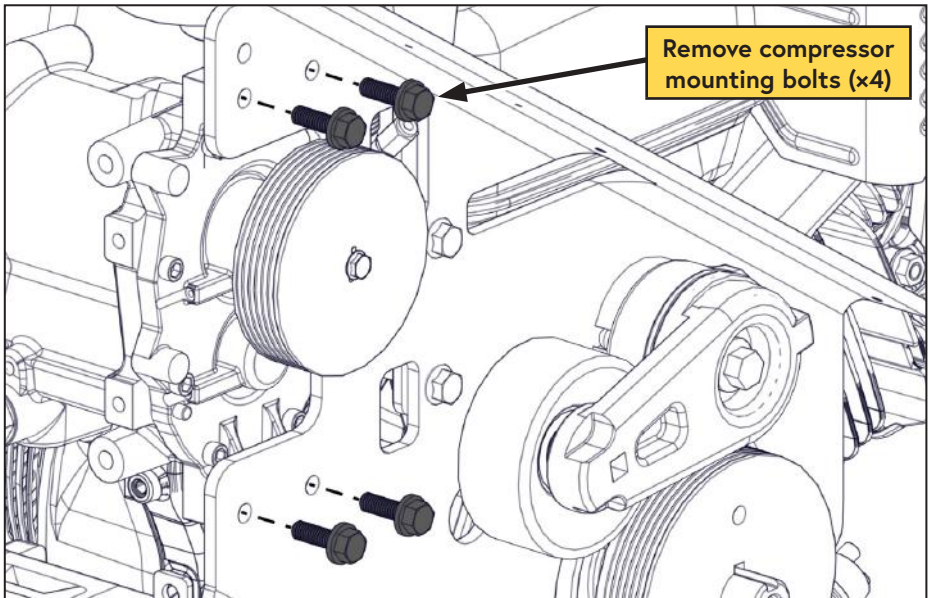

Figure 68 — Remove compressor
- Remove the (x4) bolts securing the compressor to the belt guard (Figure 68).